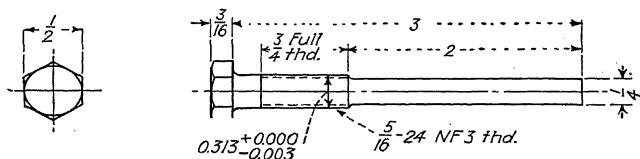

FIG. 13.—Special bolt to hold cam ring for timing valves.
a. Lock the cam ring by inserting a special bolt, as in Fig. 13, in the  $\frac{5}{16}$ -24 tapped boss to the right of the crankshaft gear in the induction housing and screw it against the cam ring. This bolt should be tightened only moderately against the cam ring; excessive tightening may cause damage. This bolt may be purchased from the Warner Aircraft Corp.